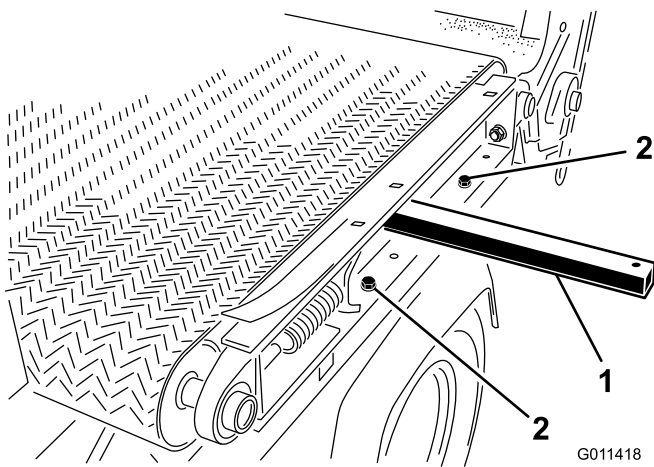

Figure 35
7. Remove (2) capscrews, washers and nut, on left side of machine, securing slider bed to frame (Figure 35).
- Insert a lift bar into hole on left side of machine and raise lift bar to tip slider bed (Figure 35).